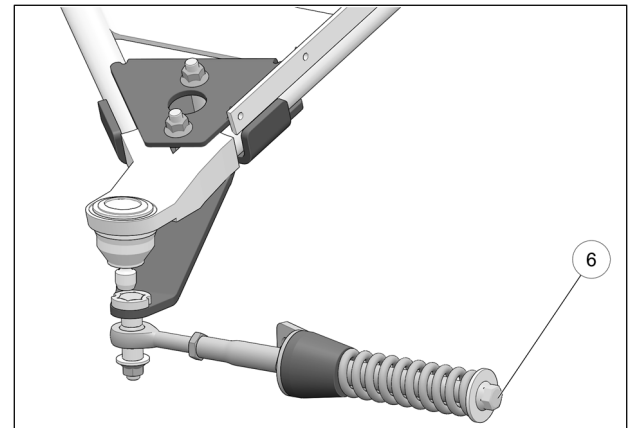

Fig. 21
9. Verify that spring assembly bolt (6) is tightened to the recommended torque specification: 75 N•m [55 lb•ft]. Refer to Fig. 21